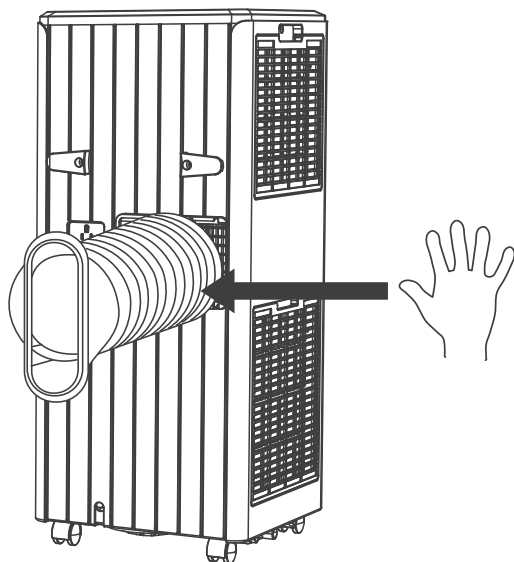

Figure 1
● Install the Heat Pipe Assembly (as shown in Fig.1)
- 2) Insert the heat pipe assembly (the end of the exhaust joint) into the back panel vent slot (push to the left) and complete the assembly (as shown in figure 1).